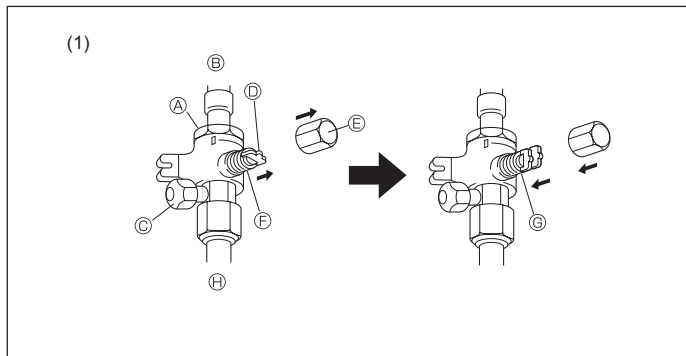
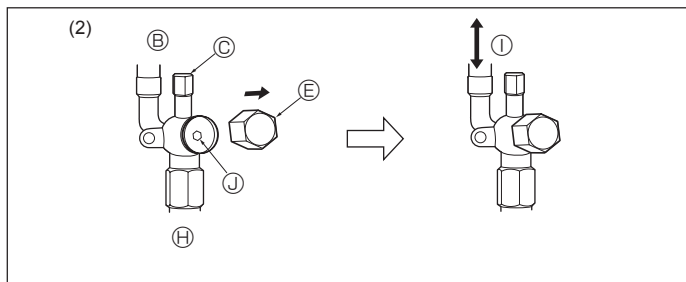

Fig. 5-8
Fig. 5-9
(1) Gas side (Fig. 5-8)
① Remove the cap, pull the handle toward you and rotate 1/4 turn in a counterclockwise direction to open.
② Make sure that the stop valve is open completely, push in the handle and rotate the cap back to its original position.
(2) Liquid side (Fig. 5-9)
① Remove the cap and turn the valve rod counterclockwise as far as it will go with the use of a 4 mm [3/16"] hexagonal wrench. Stop turning when it hits the stopper.
② Make sure that the stop valve is open completely and rotate the cap back to its original position.